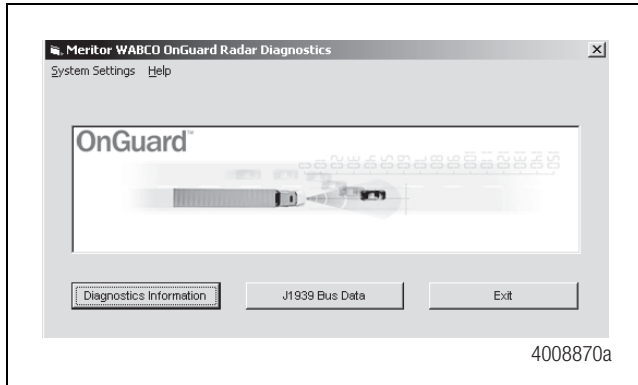

Figure 2.9
To retrieve radar sensor information, select “Diagnostic Information” from the OnGuard Radar Diagnostics home screen. Figure 2.9.
1. To access OnGuard Radar J1939 Data, click on “J1939 Bus Data” from the OnGuard Radar Diagnostics home screen. Figure 2.9.